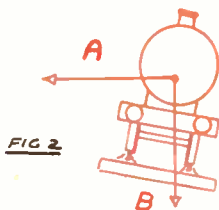

FIG 2
As a train rounds a curve it has two forces working on it, the centrifugal as (A) Fig. 2, and the weight (B) acting straight down from the centre of gravity. The super-elevation, however, as can be clearly seen, brings the vertical from the centre of gravity inward and away from the outer rail, and a lot more centrifugal force would now be needed to get it to the outer rail and over the danger point, so the train gets round safely. With the rails flat, the weight line would reach the danger point sooner.